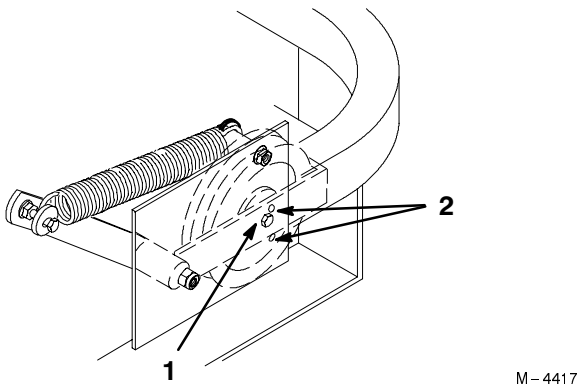

Figure 64
6. Check belt tension. The center bolt of spring loaded idler must be between the two alignment holes in left support plate (Fig 64).
Check position of center bolt in a High Height of Cut. The center bolt must be at or above the lower adjustment hole (Fig 64).
8. Check belt tension again. The center bolt of spring loaded idler must be between the two alignment holes in left support plate (Fig 64). Adjust, if necessary, and tighten all hardware securely.